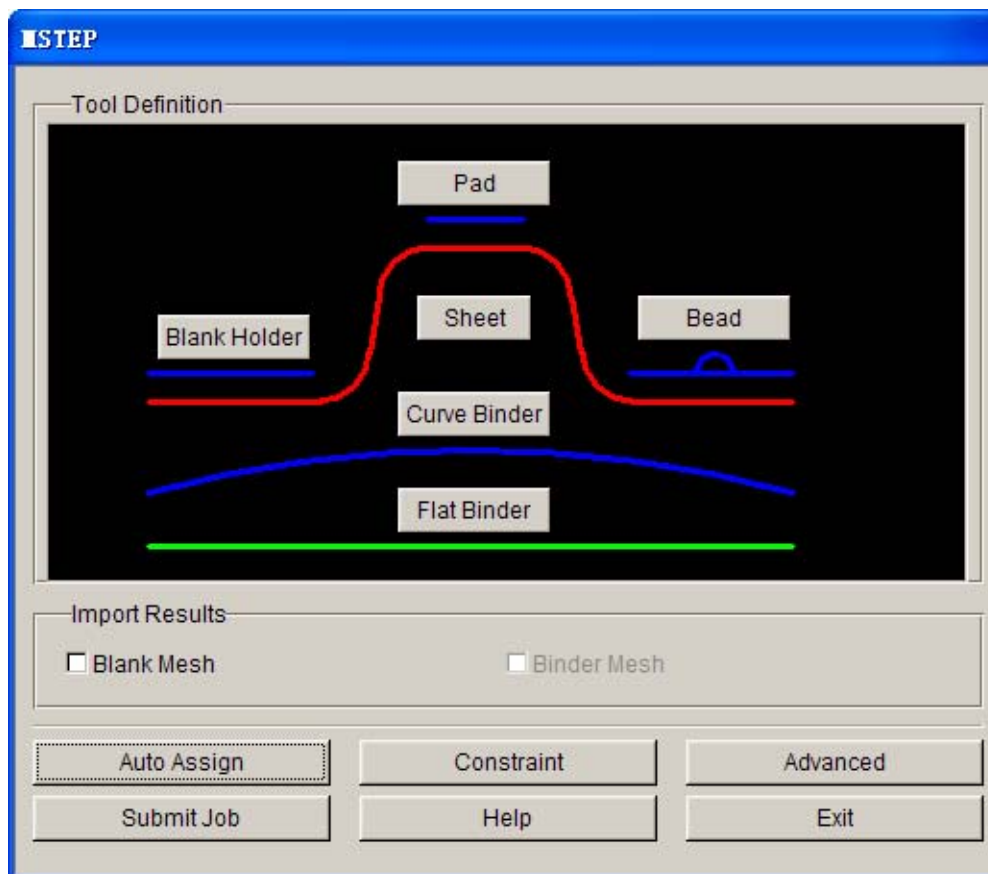

Figure 3.11: MSTEP GUI
2. The following figure 3.11 is the Schematic View of MSTEP module. The module operation is simple, once assign the corresponding part to tool and select the solution mode; the simulation operation can be performed.